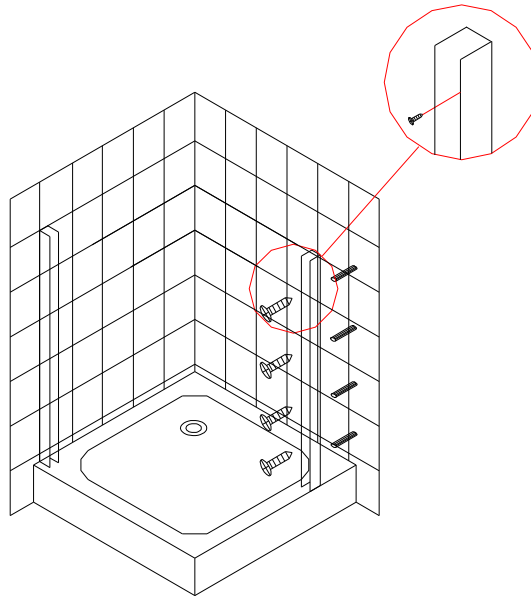

Figure 3
4. Fix the wall profiles (3) with the ST4x30 (2) screws to the walls, as shown in figure 3.